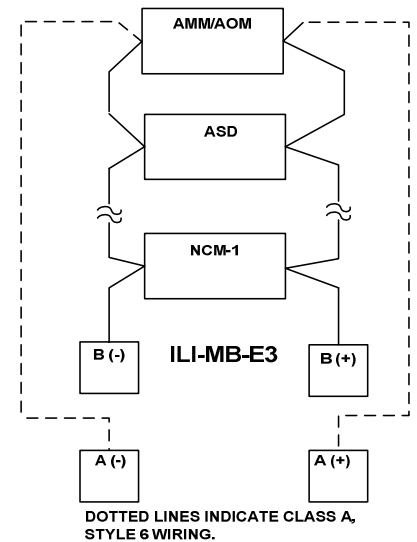

Figure 3-2 Signaling Line Circuits
The ILI-MB-E3 provides two (2), 24 VDC Class A, Style 6, 7 or Class B, Style 4 signaling line circuits. See Figure 3-2 for wiring information. Style 7 wiring requires the use of an M500X Isolator Module on both sides of a device.